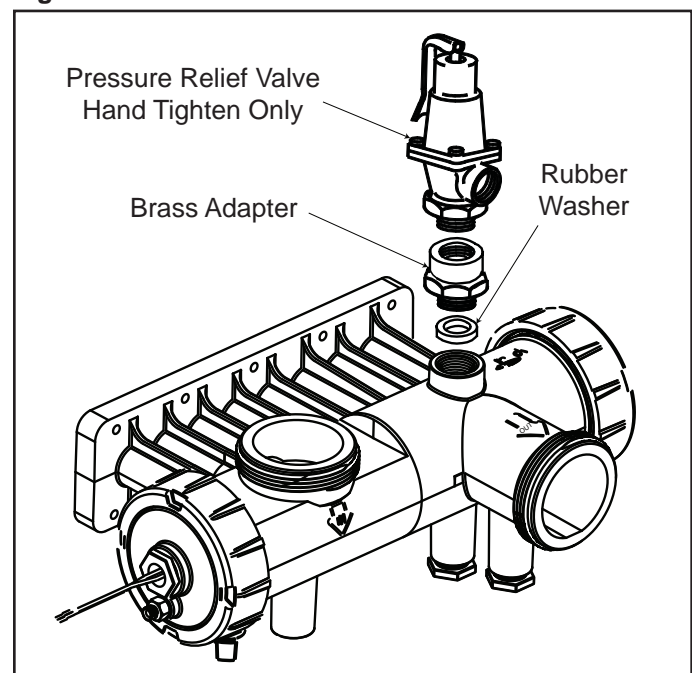

Figure 19. Pressure Relief Valve Installation
6. Install the rubber washer at the bottom of the hole. See Figure 19.